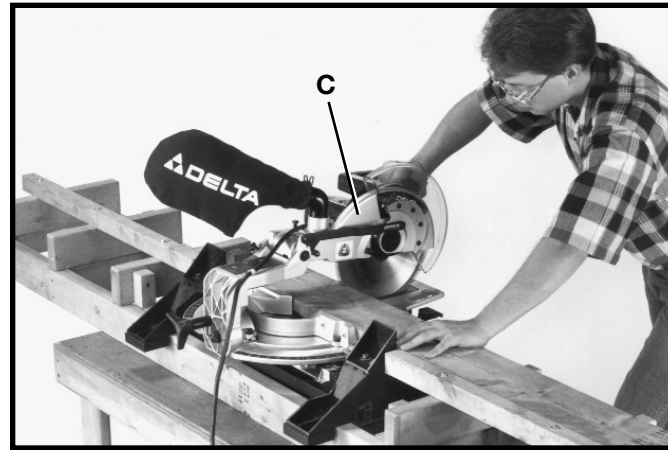

Fig. 75
3. Push down on the cuttinghead (C) Fig. 75, with the blade running, as shown.